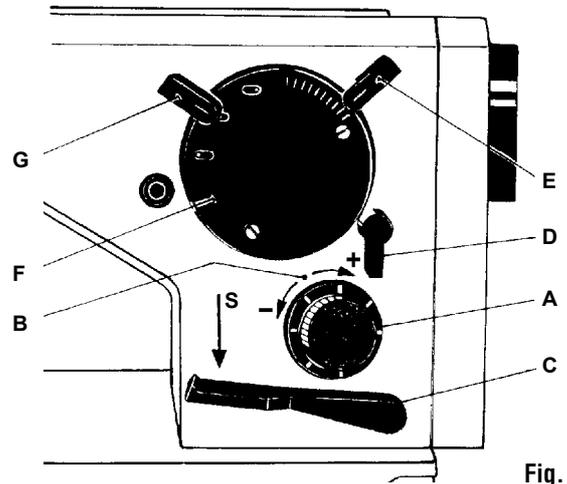

Fig. 8
6.6 Adjustment of the stitch length, reverse stitching (Fig. 8, 9)
6.7 Adjustment of the zigzag stitch width and position (Fig. 8)